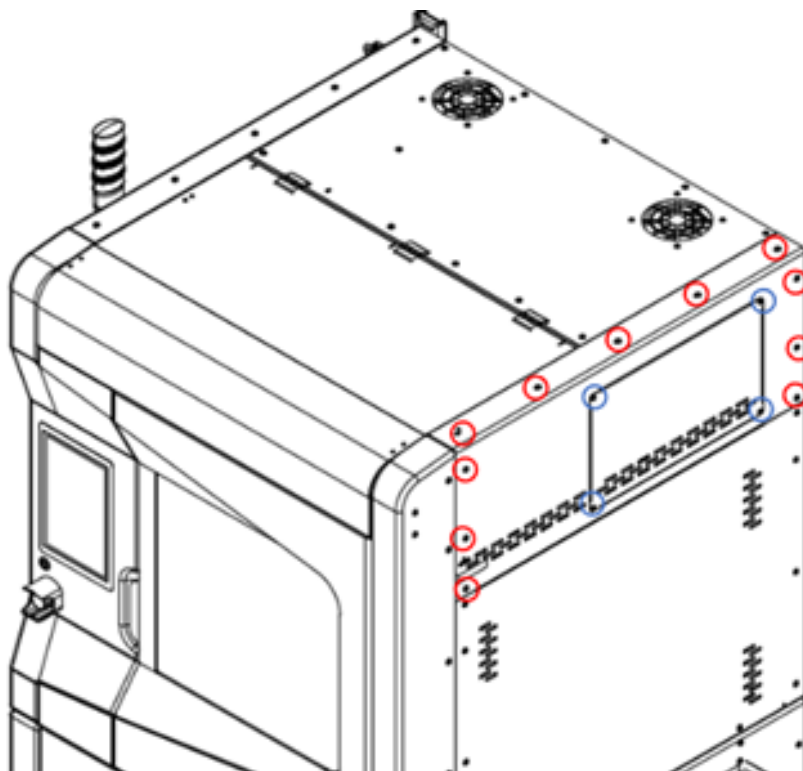

Fig. 98 Top right cover of the printer
3. Remove the right upper cover by unscrewing the 11 fixing screws marked in Fig. 98. Depending of version of printer red or blue circles.